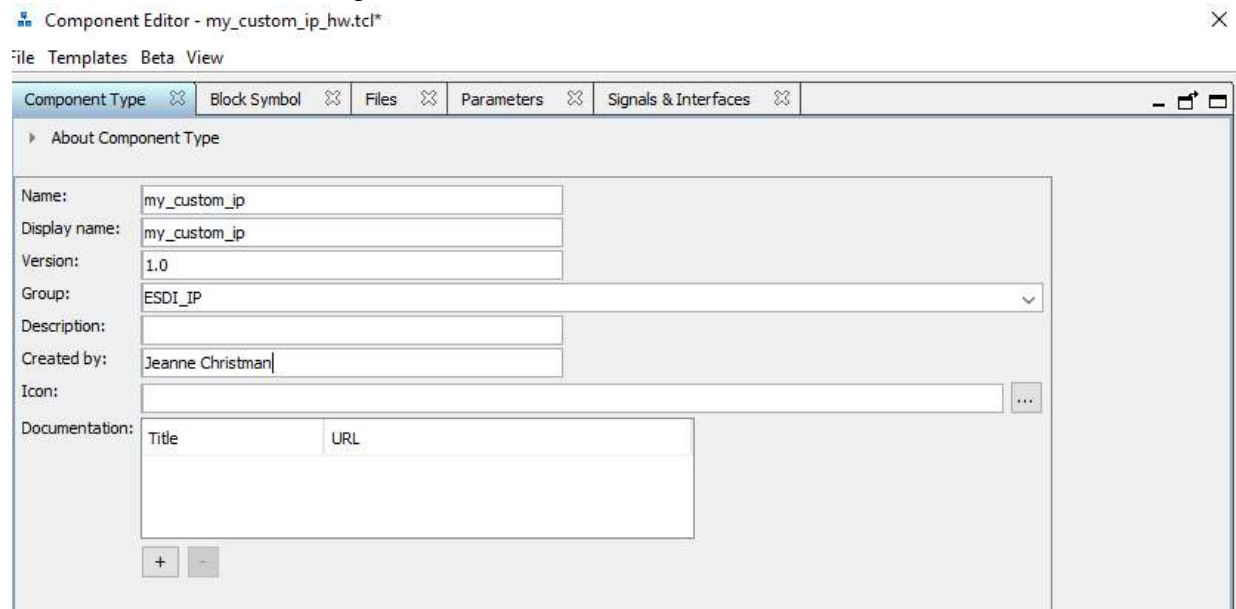

Figure 3: Component Type Tab of Component Editor
7. The first step in creating a component is to specify where in the Component Library our new component will appear. In the **Component Type** tab, change the **Name** to **my_custom_ip**, the **Display name** to **my_custom_ip**, and provide a name for the **Group** setting, such as **ESDI_IP**. The group allows you to place custom components into specific libraries. Add your name by **Create By**. Your Component tab should similar to Figure 3. Click **Next** when done.